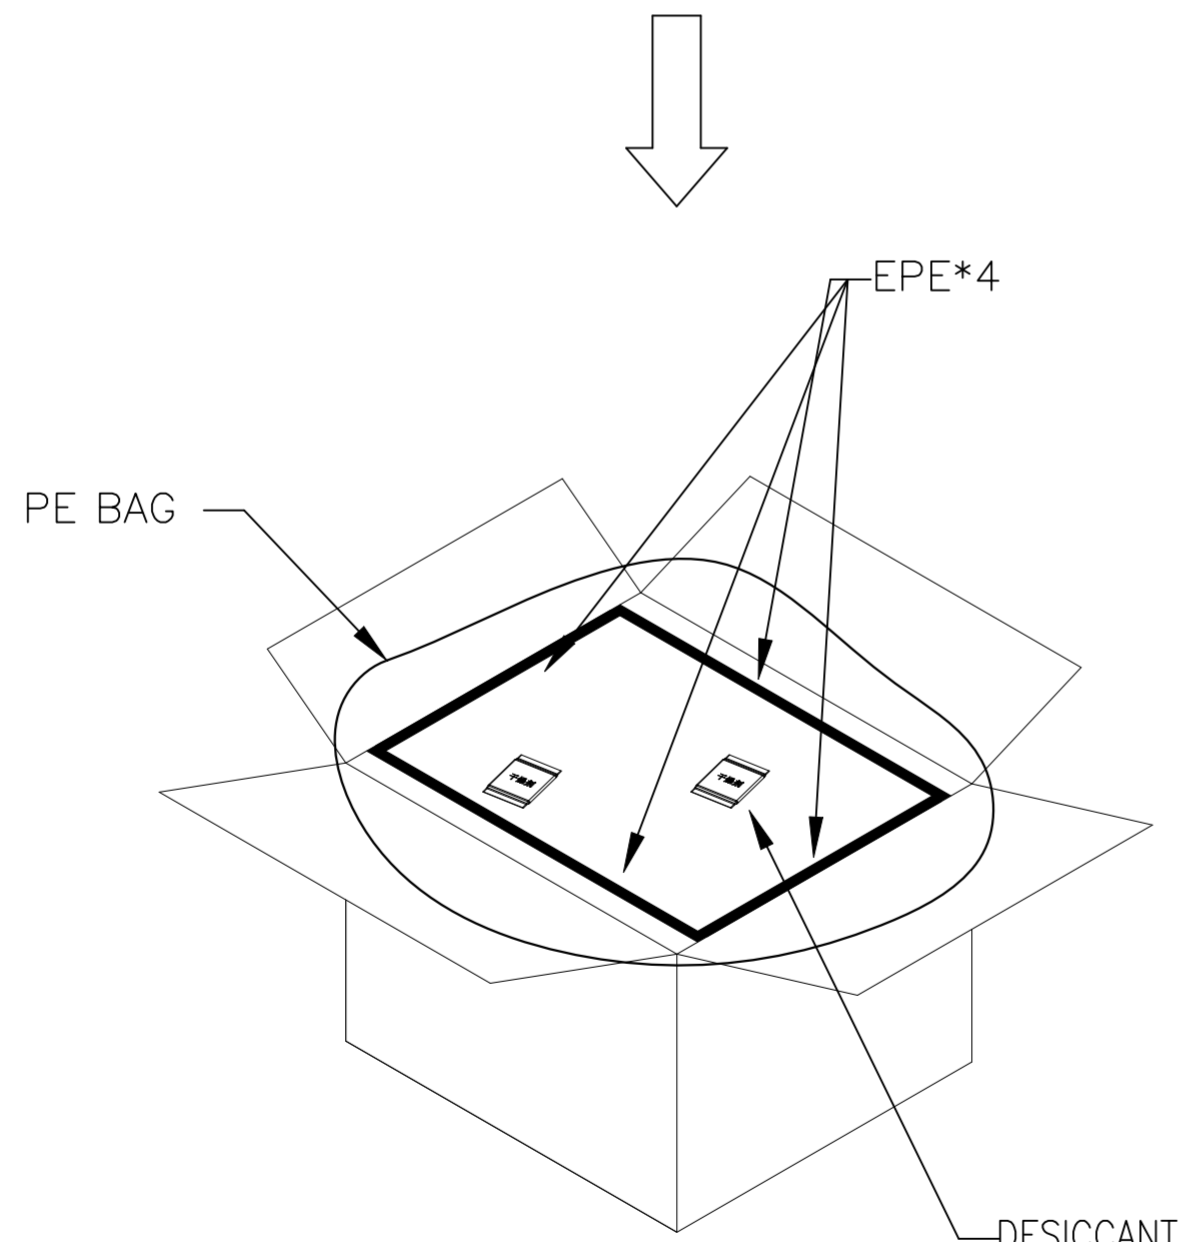

FIGURE 3
4. PLACE ONE PEARL AT THE BOTTOM OF THE BOX, AND ONE PEARL COTTON ON EACH SIDE OF THE INNER BOX; WRAP THE PRODUCT IN THE THIRD STEP AND PUT IT IN A PE BAG, THEN PLACE A DESICCANT INSIDE. PUT IT INTO A CARDBOARD BOX AND SEAL THE PE BAG WITH ADHESIVE TAPE (WITH THE BOTTOM OF THE TRAY FACING DOWNWARDS). PLACE A PIECE OF PEARL COTTON ON TOP OF IT; (AS SHOWN IN FIGURE 3)